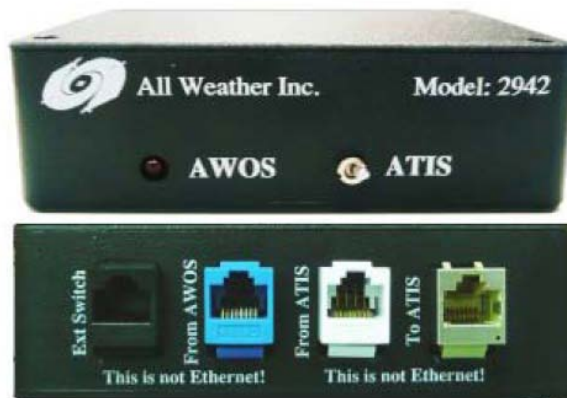

Figure 14. Model 2942 Desktop ATIS Interface
- The Model 2942 (Figure 14) is a desktop version of the ATIS Interface. This model has an LED and mode switch on the front of the enclosure, and so does not require the Remote Switch. The Remote Switch can still be used with this model, however, if desired. ***Important: When the Remote Switch is used with the Model 2942 desktop interface, the selection switch on the Model 2942 must always be in the ATIS position.***